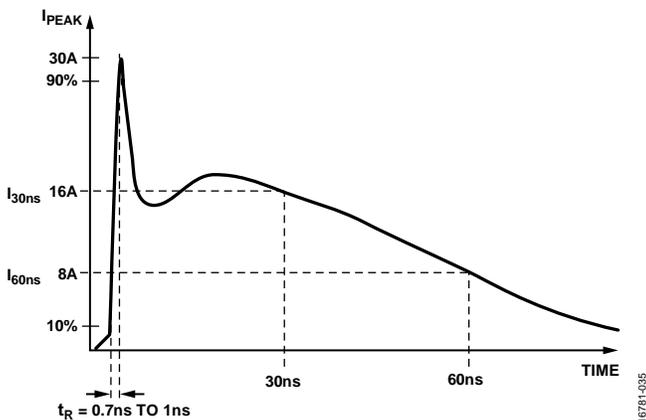

Figure 36. DO-160 Section 25 ESD Waveform (8 kV)
Figure 36 shows the 8 kV contact discharge current waveform as described in the DO-160 Section 25 ESD specification. Some of the key waveform parameters are rise times of less than 1 ns and pulse widths of approximately 60 ns. The DO-160 Section 25 standard uses the same resistor/capacitor (RC) network and an equivalent test procedure as the IEC61000-4-2 standard.